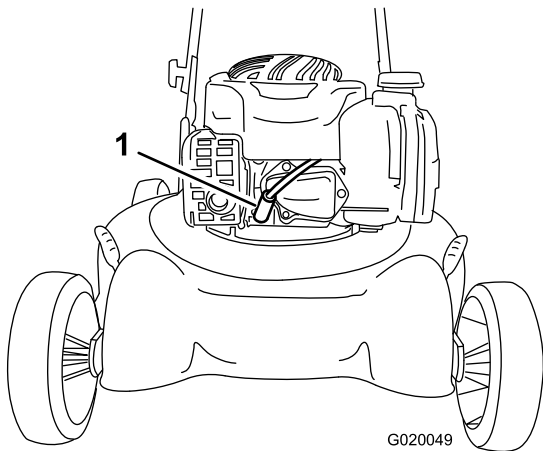

Figure 14
- Disconnect the spark-plug wire from the spark plug (Figure 14) before performing any maintenance procedure.